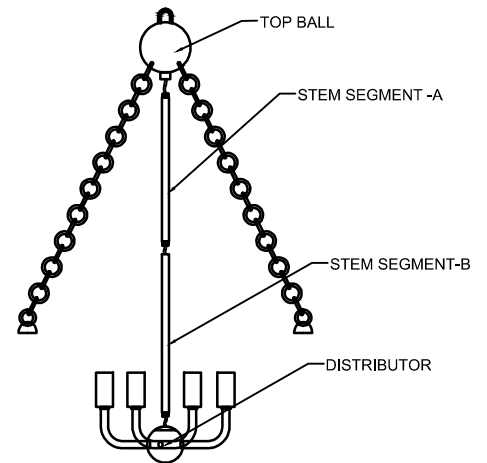

FIGURE-02
3. Assemble the fixture. Fasten the Stem Segment -B to the Distributor, then the Stem Segment -A to Stem Segment -B and then the top ball to the Stem Segment -A. (See Figure -02)